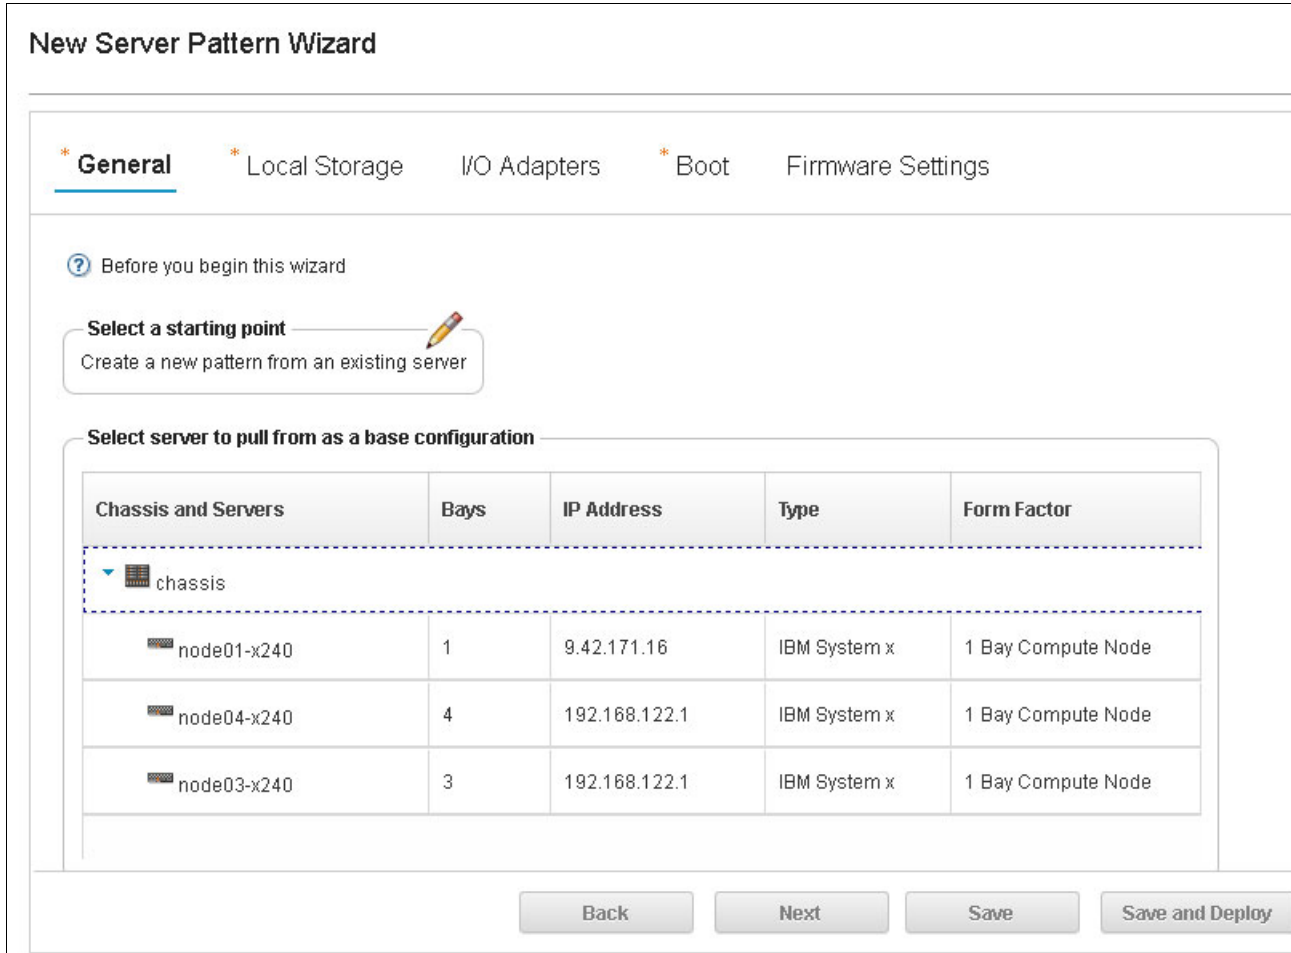

Figure 6-40 Select the node on which to base the pattern
2. Choose the node on which the pattern will be based as shown in Figure 6-40. Click **Next**.